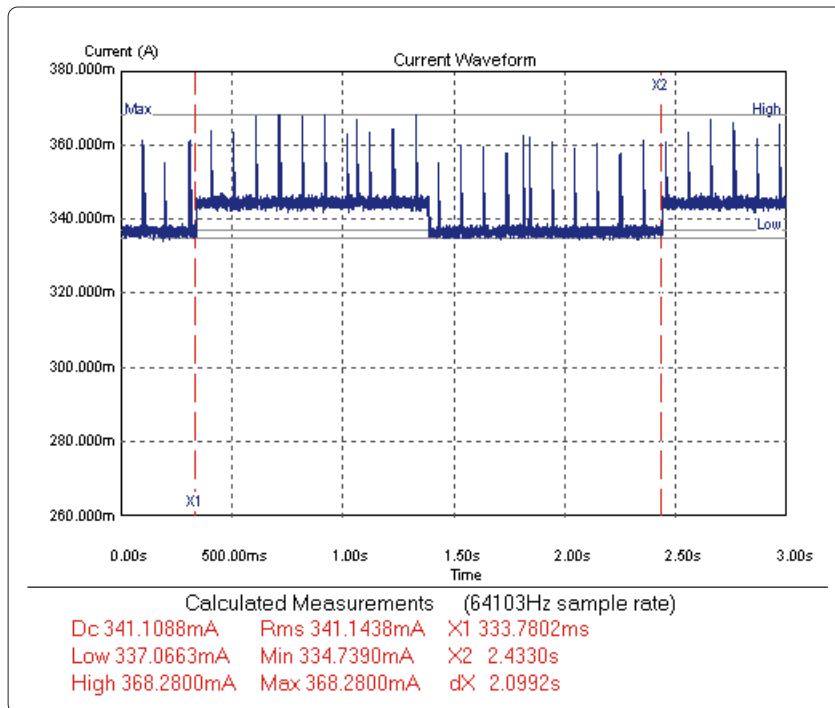

Figure 2. WLAN Card Idle Active Current Drain Waveform Capture
The 14565B software, set to its Waveform Capture Mode, was used to acquire three seconds of the WLAN card's active mode operation current drain, sampled at a high rate, as shown in Figure 2. The WLAN card was communicating to the Access Point (AP) but otherwise idle. Several things become apparent reviewing the signal's dynamic characteristics: